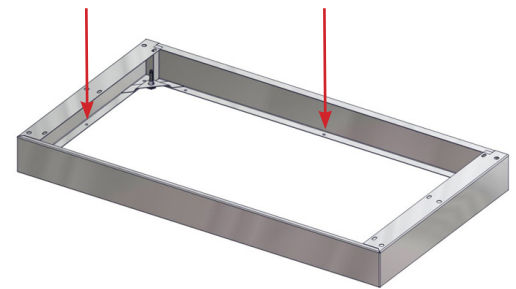

Fig. 10: Secure Base to Floor
3. It is recommended that the cabinet can be further stabilized by attaching the base to the floor via holes in the bottom of the cabinet base (Hardware not provided) (Fig. 10).